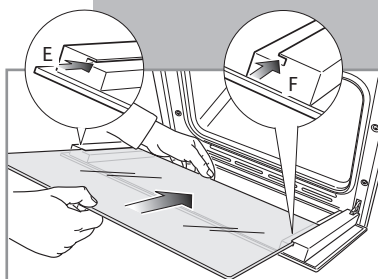
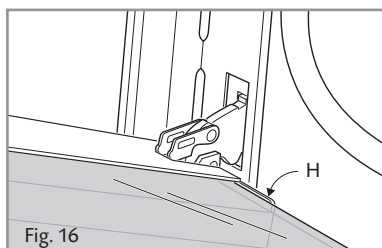

Fig. 15
Fig. 16
- Insert the pane in the left **E** and right **F** slide guides (fig. 15), and gently slide it to the retainers **H** (fig. 16).